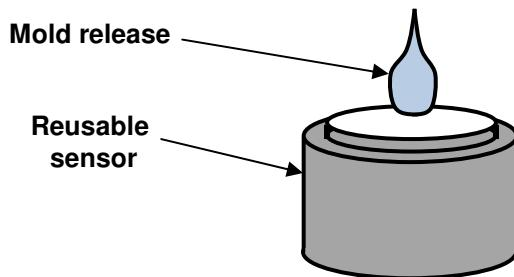

Figure 1
- Do prevent material from adhering to reusable sensors by applying silicone or non-conductive mold release, as shown in Figure 1